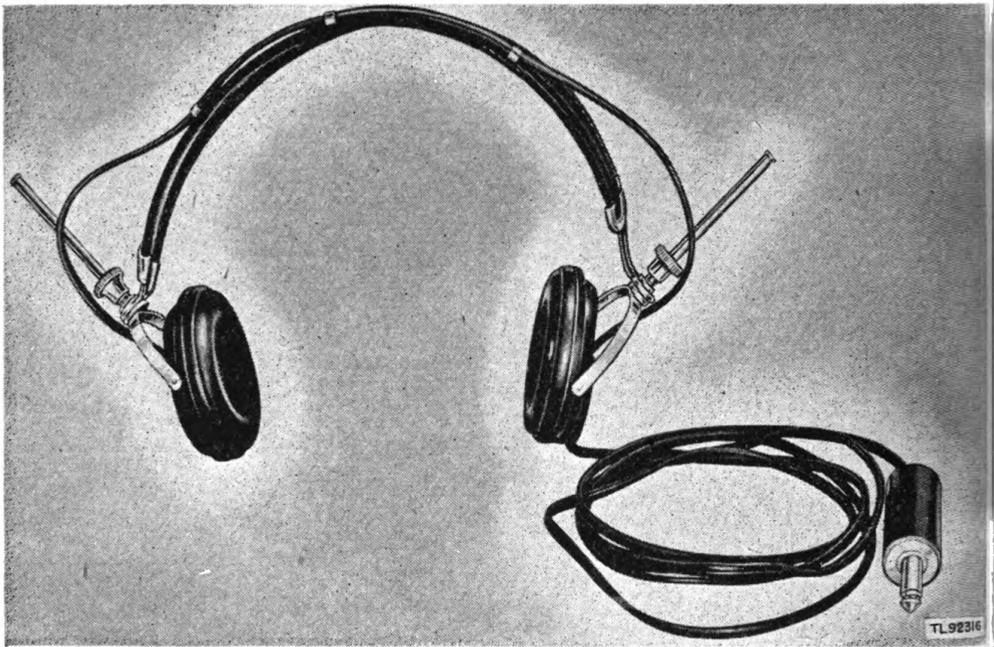

Figure 6. High impedance earphones (crystal type).
e. EARPHONES (fig. 6). One set of earphones is furnished with the sound recording set. Equipped with a 6-foot shockproof and moistureproof cord terminating in a phone type male plug, the earphones are used for monitoring or for private reproduction of a recording. The impedance of both phones is 40,000 ohms at 500 cycles. Crystal elements are used.